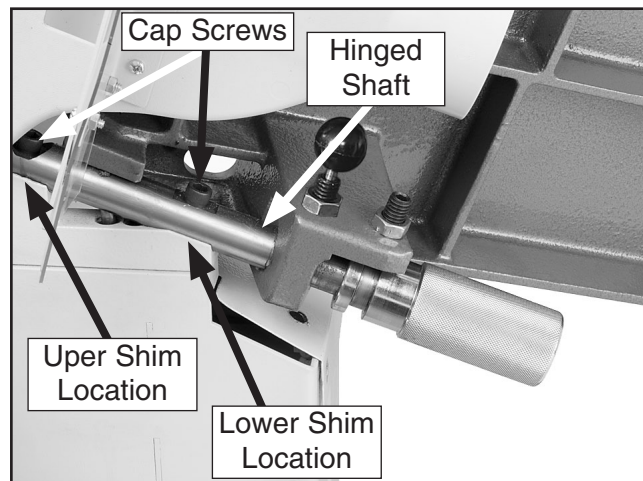

Figure 57. Infeed table hinged shaft. (Jointer table raised for clarity.)
4. Loosen the cap screws shown in **Figure 57**.